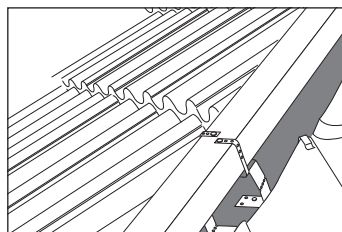

Fig. 6 – Fixing hip batten
- 5 Secure either one or two thicknesses of 50mm x 25mm tiling batten to the top of Batten Brackets, parallel to hip rafter, by folding over Batten Bracket arms and nailing through perforations into the battens using nails provided (Fig. 6).